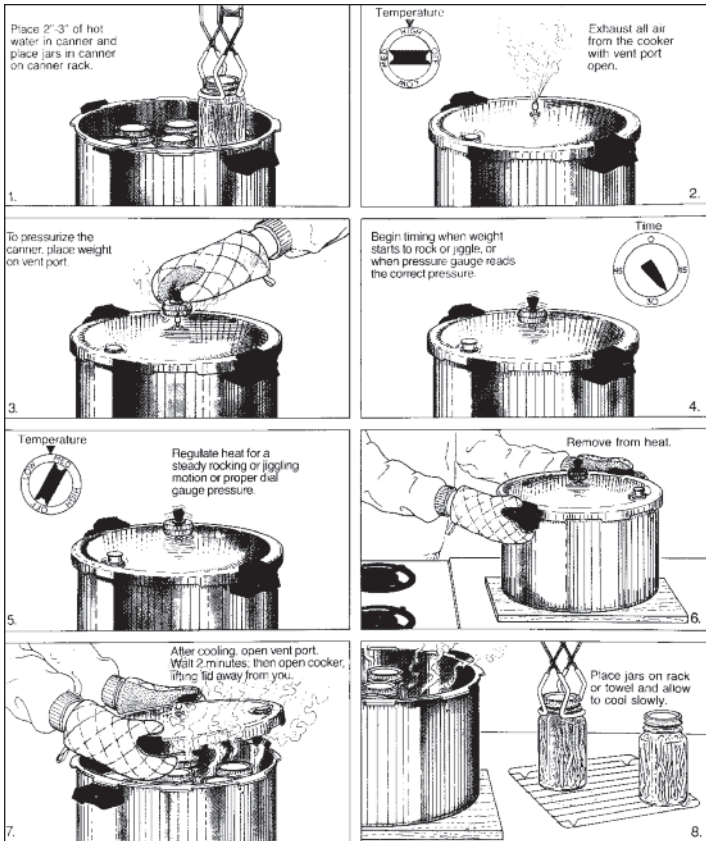

Fig. 2. Steps for using your pressure canner.
1. Put 2 to 3 inches of hot water in the canner (fig 2). When canning fish or other foods with a long processing time, add additional water (a total of 4 to 5 inches) to be certain the canner does not boil dry. Place filled jars on the rack, using a jar lifter. Fasten canner lid securely.